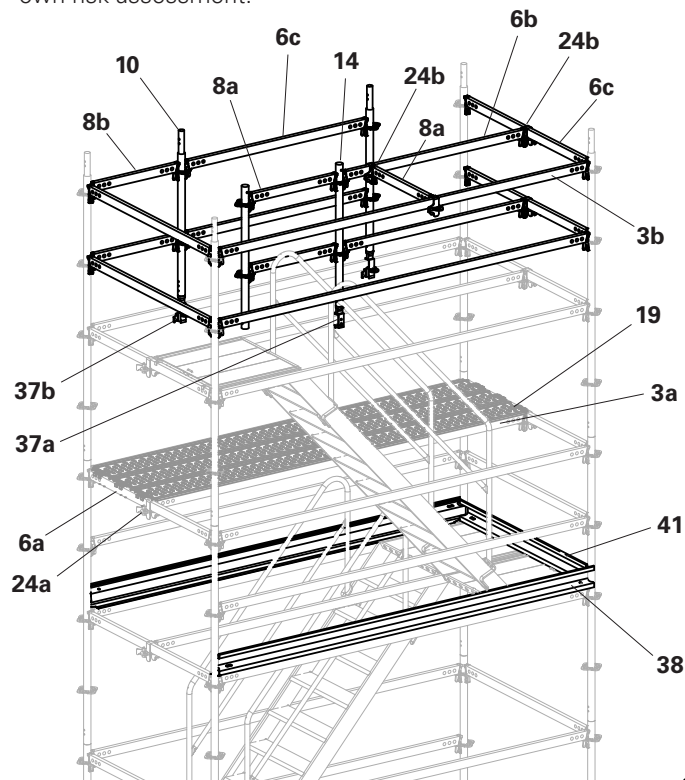
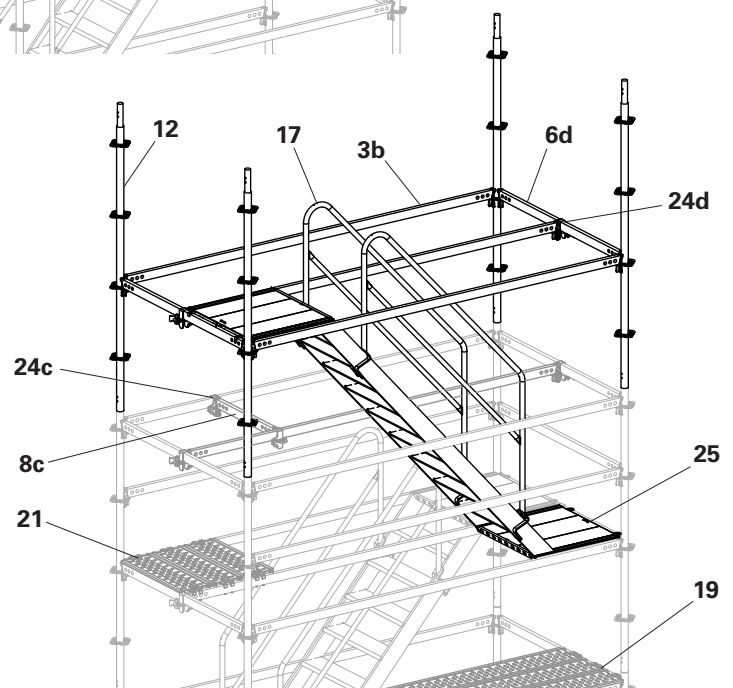

Fig. B10.01
Fig. B10.02
2. Re-position Steel Decks UDG-2 (19) in the position shown.
3. Remove the Top Standards UVR-2 100 (14), Ledger UH-2 75 (8a), Ledger UH-2 150 (6b), Ledger Brackets UHA Half (24b) and UH Spigot-2 (37a).
4. Remove the external Horizontal Ledgers UH-2 300 (3b), Ledgers UH-2 150 (6c), Ledger UH-2 75 (8b), Standard UVR-2 100 (10) and UH Spigot-2 (37b).
5. Remove temporary Horizontal Ledger UH-2 300 (3a) and relocate Steel Decks UDG-2 (19) to position shown in Fig. B10.02.
6. Remove Toeboard Steel UPY 300 (38) & UPY 150 (41). (Fig. B10.01)
8. Relocate temporary Steel Deck UDG-2 25 x 75 (21) to the position shown.
9. Remove Staircase UAS-2 (25) and UAG (17).
11. Finally, remove Standards UVR-2 200 (12). (Fig. B10.02)